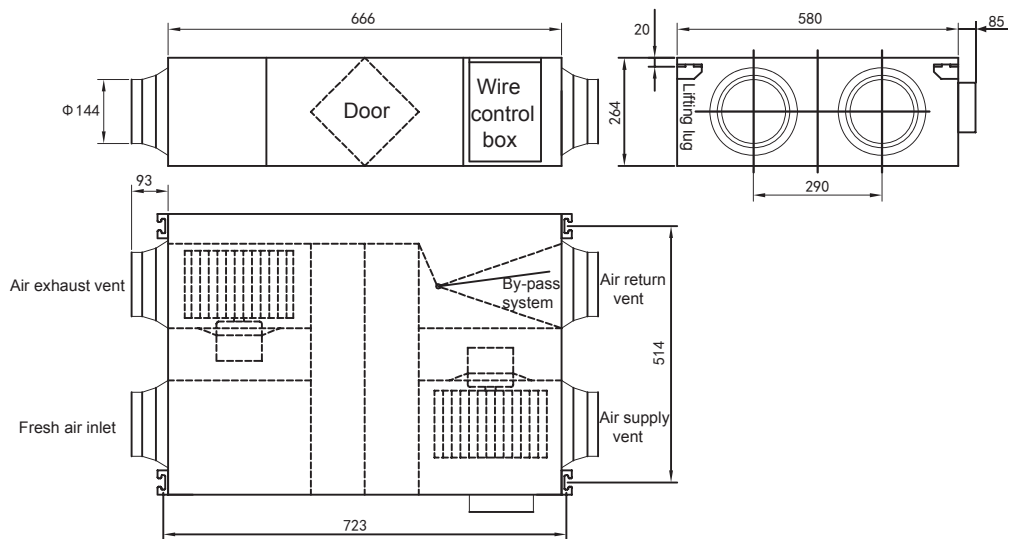

Fig. 3-4
- Key dimensions of the unit and air duct installation. (See the following attached picture Fig.3-4~3.7 & Table 3-1)